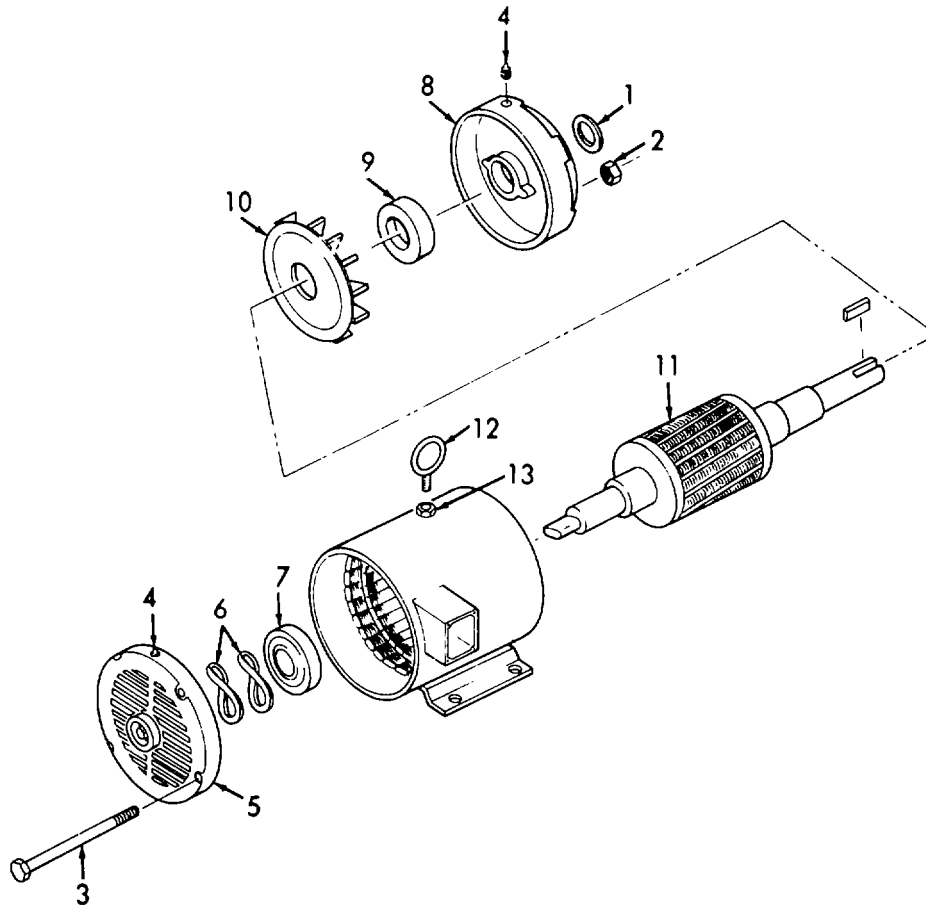

Figure 4-9. Electric Motor, Assembly.
e. *Assembly.* (Refer to Figure 4-9).